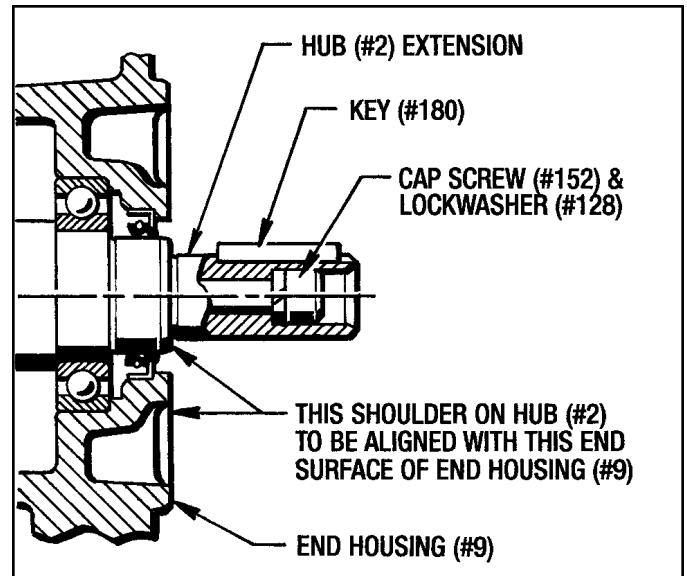

Figure 3.3 - Hub Alignment
NOTE - The Hub (#2) will be pulled in as the Screw (#152) is tightened. Re-align the Hub (#2) by pulling it outward while tightening the Screw (#152). The shoulder on the Hub (#2) should be in approximate alignment with the End Housing (#9) as shown in Figure 3.3.
1. Attach the Drive Motor and Brake Assembly to the Gear Box or Driven Machinery with the (4) 3/8"-16 Mounting Bolts (Customer Furnished). **Torque to 25 Ft. Lbs.** Connect the coupling as per manufacturer's specifications.
2. If the Drive Motor is to be bolted down to the base, use motor shims under the feet to properly align the drive motor with the gear reducer as shown in Figure 3.3. **This is very important so the Coupler Brake will not be pulled down or pushed up.**